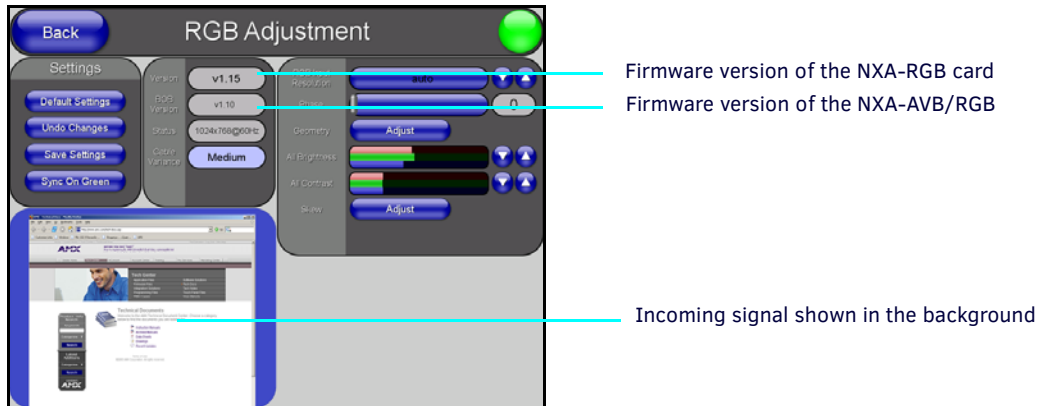

FIG. 99 RGB Adjustment page (showing the default values)
4. Press the **Video Adjustment** > **RGB Adjustment** buttons to open the RGB Adjustment page (FIG. 99). This page displays the firmware for both the internal NXA-RGB card and the communicating external NXA-AVB/RGB Breakout Box (BOB).